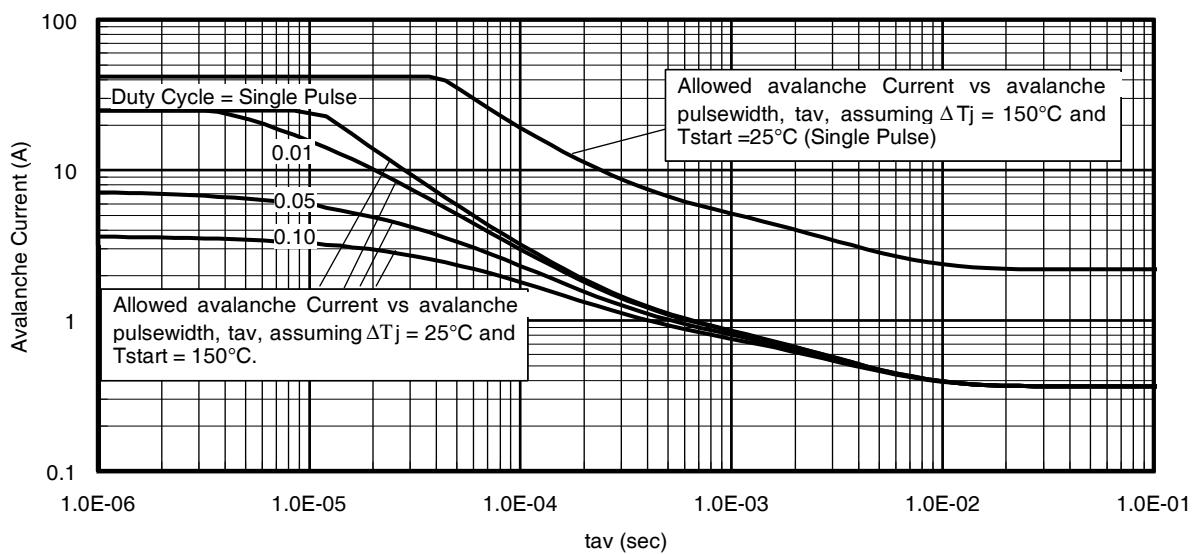

Fig 15. Typical Avalanche Current vs.Pulsewidth
Notes on Repetitive Avalanche Curves , Figures 15, 16:
7. ΔT = Allowable rise in junction temperature, not to exceed $T_{j\max}$ (assumed as 25°C in Figure 15, 16).